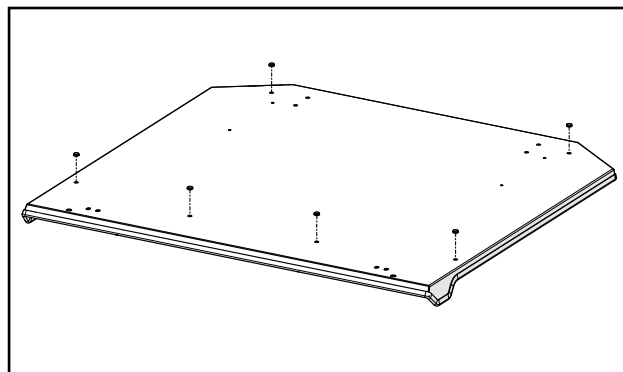

Fig. 1.3 (Install Rubber Roof Plugs)
- 1.3 Install supplied rubber plugs into the holes shown in Figure 1.3.